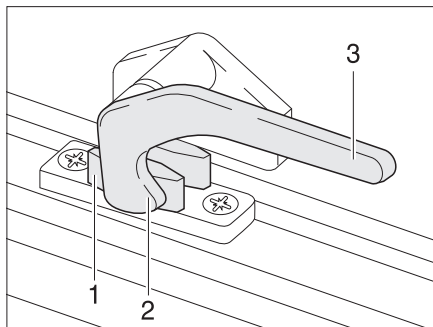

Fig. 13 Catch lever in "closed" position
- Turn the catch lever (Fig. 13,3) a quarter turn towards the centre of the window.
- Turn the catch lever (Fig. 13,3) a quarter turn towards the window frame. The locking catch (Fig. 13,2) is located on the inside of the window catch (Fig. 13,1).
- "Firmly closed" (Fig. 13).